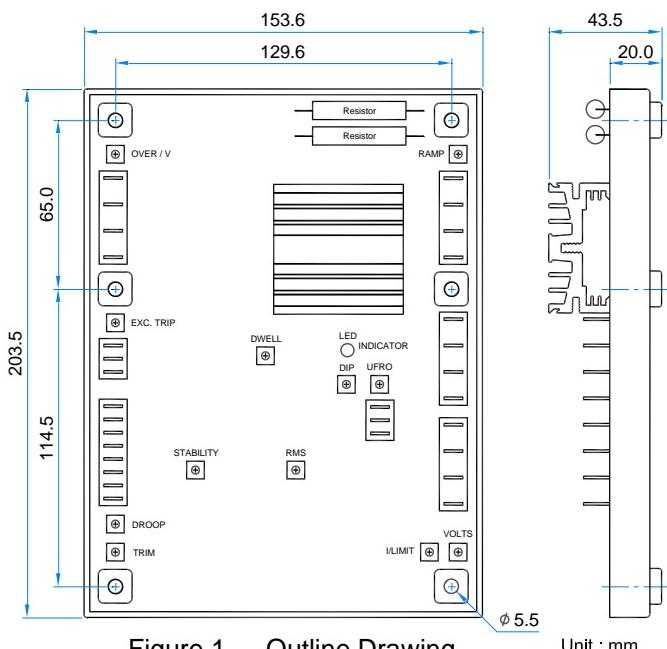

Figure 1 Outline Drawing
- AVR can be mounted directly on the engine, genset, switchgear, control panel, or any position that will not affect operation. For dimension reference, please see Figure 1.